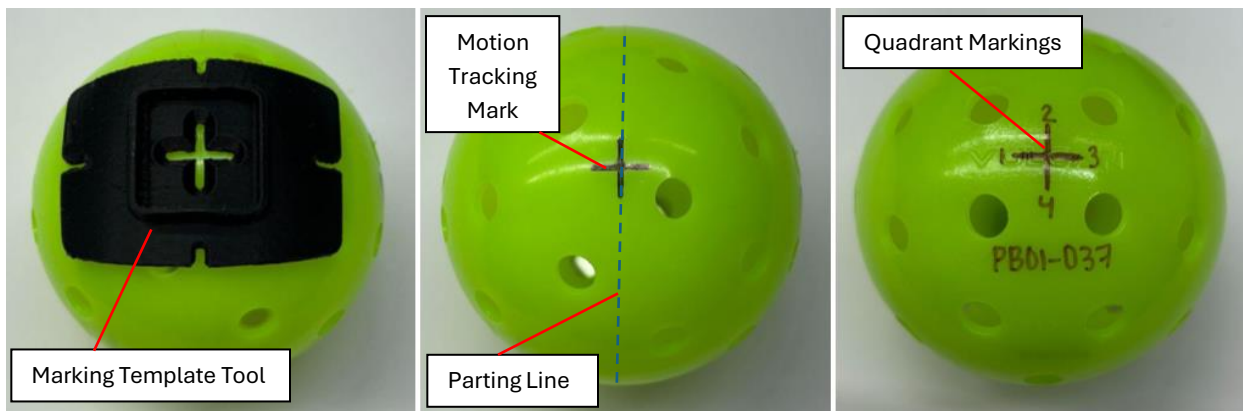

Figure 1
- a. Use the PPL Marking Template Tool and a black fine point Sharpie to apply motion tracking markings to the ball (refer to Figure 1)